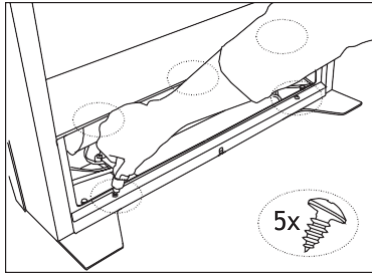

Figure 19. Unscrew 4 screws from filter housing.
2. Unscrew the five screws from the filter housing (see Figure 19).